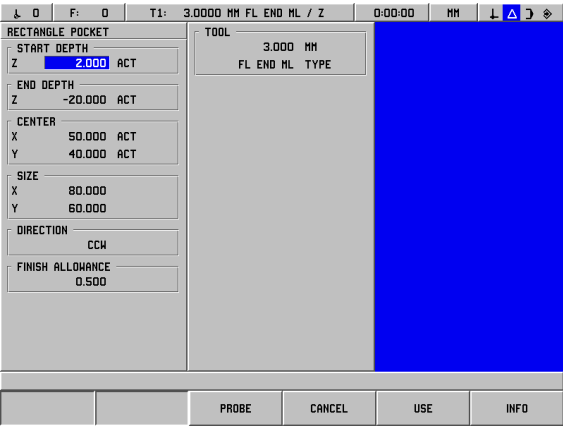
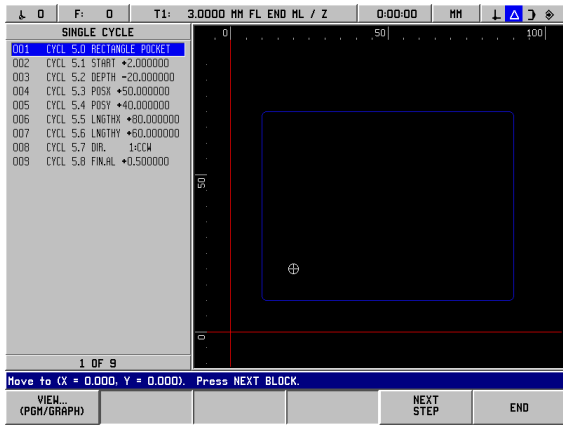

Fig. I.39 Rectangle pocket programming example
Fig. I.40 Rectangle pocket programming graphic
**Programming example: Mill rectangle pocket. See Fig. I.39 & Fig. I.40.**